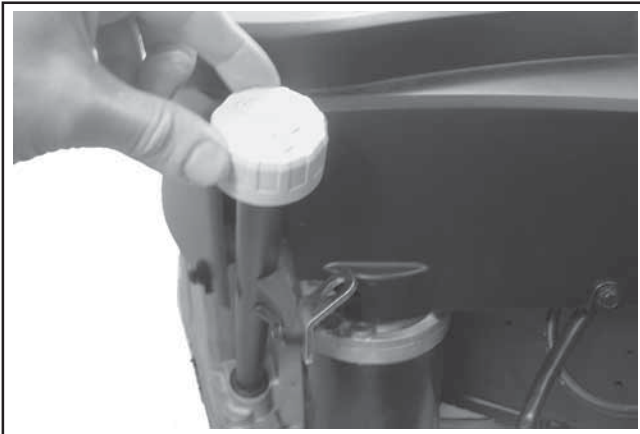

Figure 5. Checking Oil Level.
3. Unscrew and remove the dipstick; wipe oil off. Reinsert the dipstick into the tube and rest the cap on the tube. Do not screw the cap onto the tube. See Figure 5.